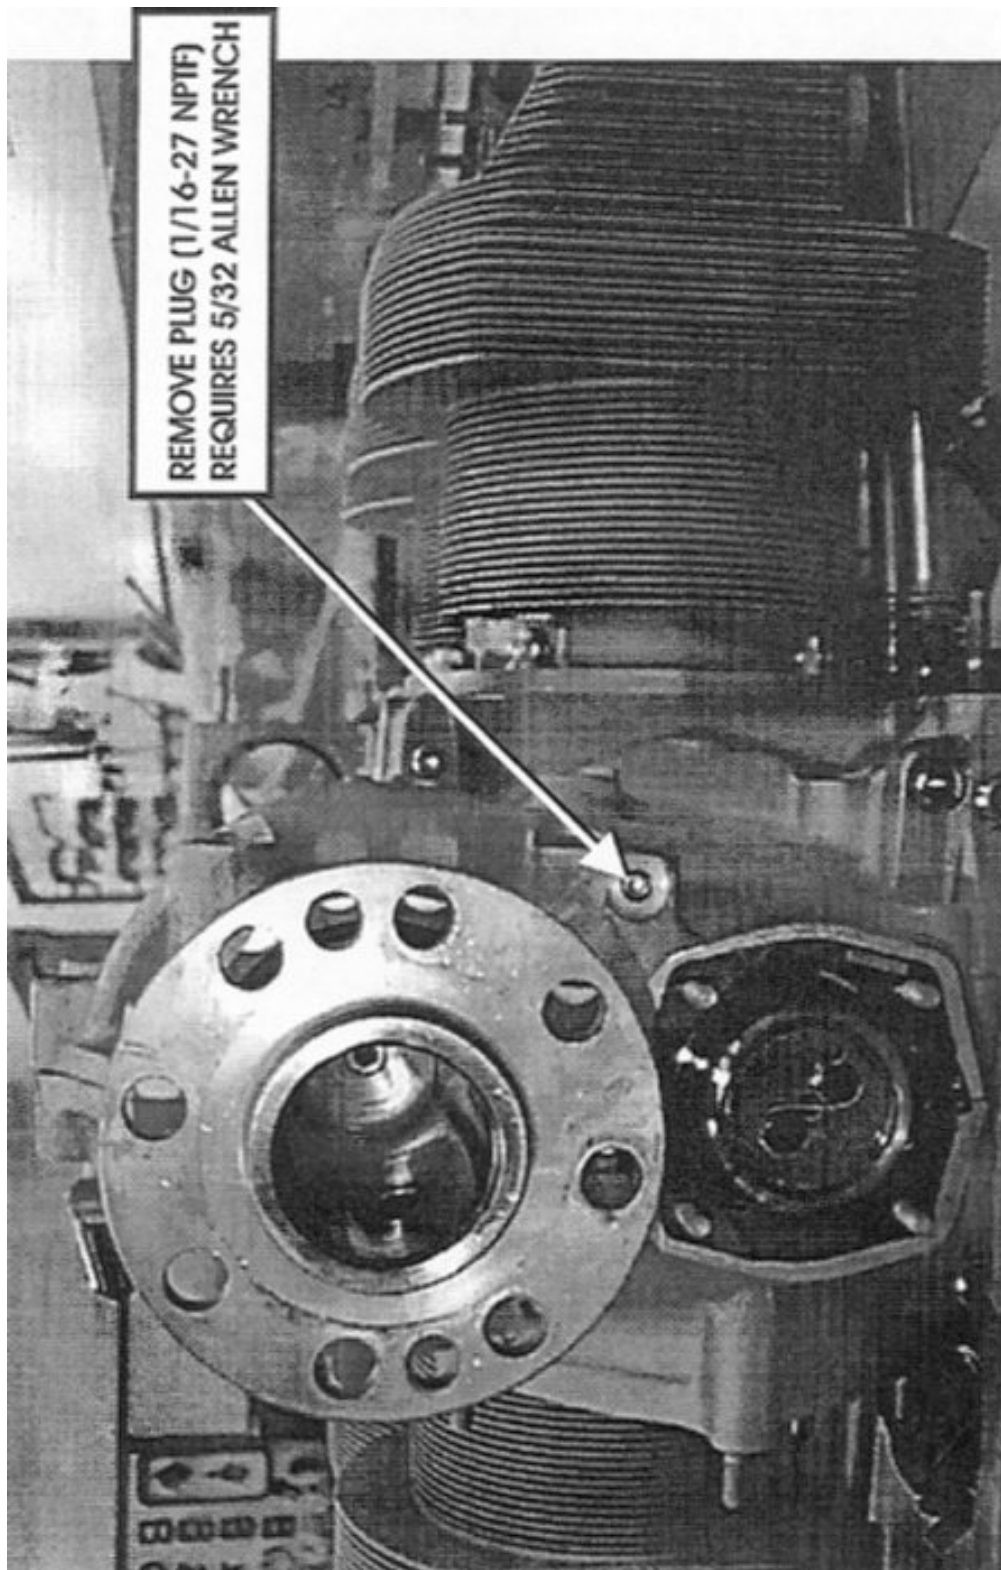

FIGURE 1
2. Using a 5/32" allen wrench, remove the oil passage plug located in the front of the LEFT crankcase half between the propeller shaft and the reduction gear cover. See Figure 1.